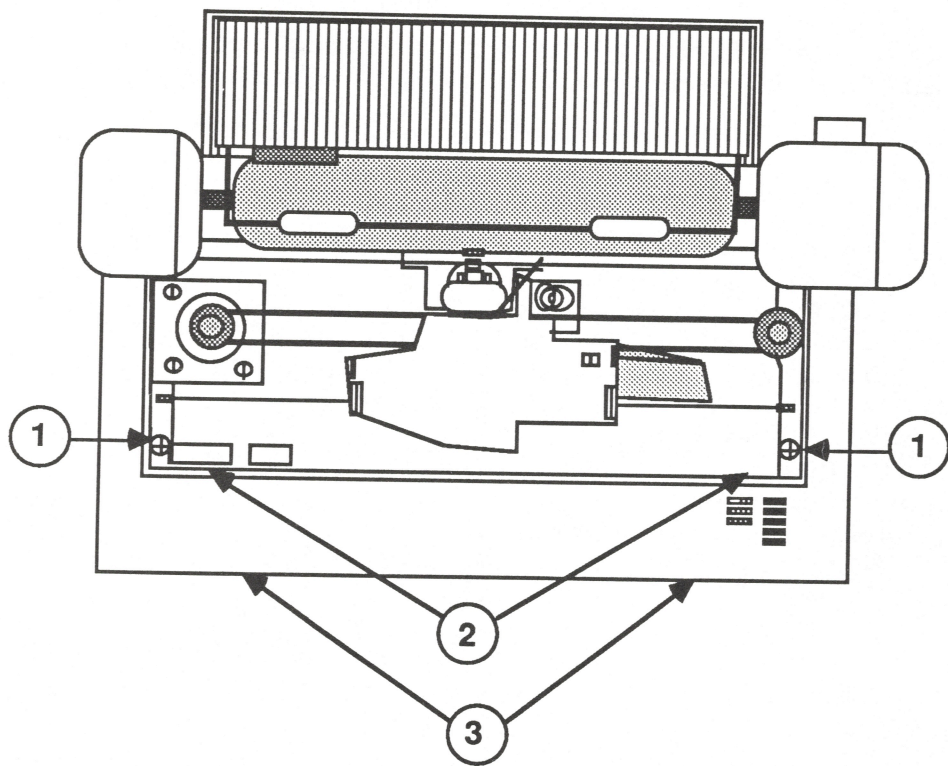

FIGURE 1
3. Loosen the two screws as far as they will go (see Figure 1, #1).
4. Place your fingers over the edge designated by Figure 1, #2, and your thumbs at the location designated by Figure 1, #3. Gently pull the cover up and towards you with your fingers until it snaps free. Do not attempt to remove the cover until after the next step.
5. Tighten the two screws (see Figure 1, #1).